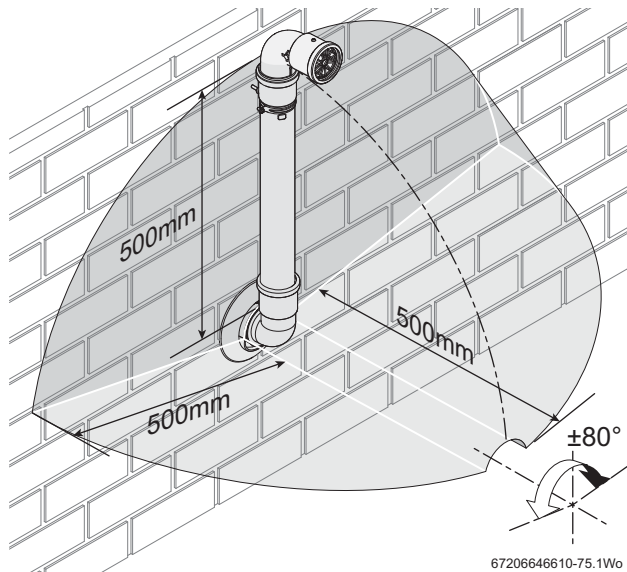

Fig. 23 Terminal exclusion zone
The minimum plume length should be calculated to ensure that the air inlet and exhaust have a minimum distance of 500mm between them (→ figure 23).
▶ Do not terminate the plume management inside the shaded area shown in figure 23